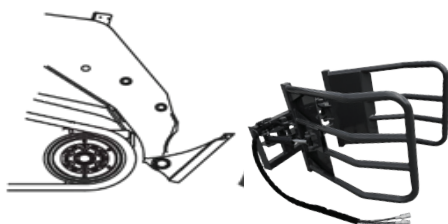

FIGURE 3.1A - QUICK ATTACH COUPLER LOCKED TO ATTACHMENT
2. Tilt the skid steer loader Quick Attach Coupler slightly down and drive forward to the rear of the hay bale squeezer until the top edge of the Quick Attach Coupler hooks under the lip of the attachment bracket. See figure 3.1a below.
3. Slightly tilt the skid steer Quick Attach Coupler upward until the attachment bracket is flat against the skid steer Quick Attach Coupler. See figure 3.1a below.